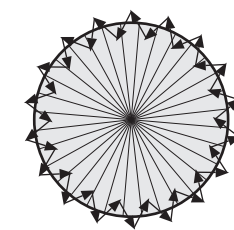

FIG. 18
- 4.4.1.4 Walk from outside across to the detection pattern until red LED or green LED turns on for approx. 2sec then off, the next trigger should be 2sec interval (See FIG.18).
- 4.4.2.5 Walk from outside across to the detection pattern until load turns on for approx. 2sec then off, the next trigger should be 2sec interval (See FIG.18).